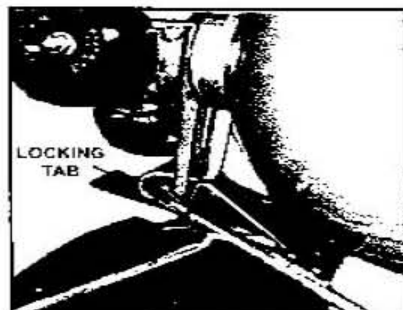

FIGURE 8
8. Replace with a fully charged cylinder of the same pressure rating and valve assembly. Slide the top of the cylinder upward under the retention strap. Engage the cylinder hanger in the hook at the bottom of the backframe. See Figure 8.